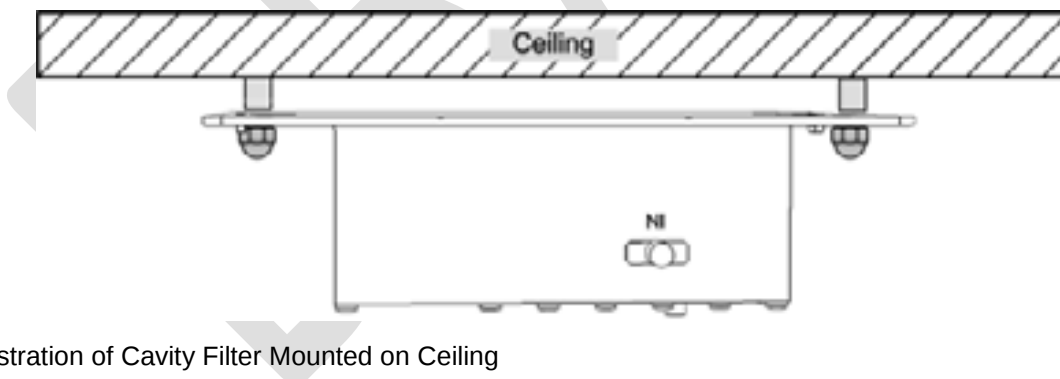

Figure 5-98. Illustration of Cavity Filter Mounted on Ceiling
3. Mount the Cavity Filter as shown in Figure 5-98.